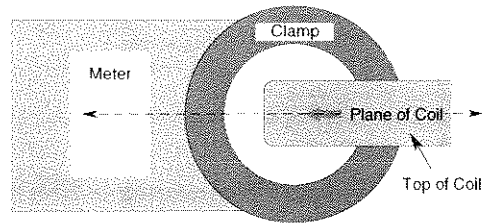

Fig. 6.5 Position of Coil
- *Fig 6.5.* Place the vertical arm of the coil, as far as is possible, in the center of the air space of the clamp. Align the center axis of the meter along the plane of the coil itself.